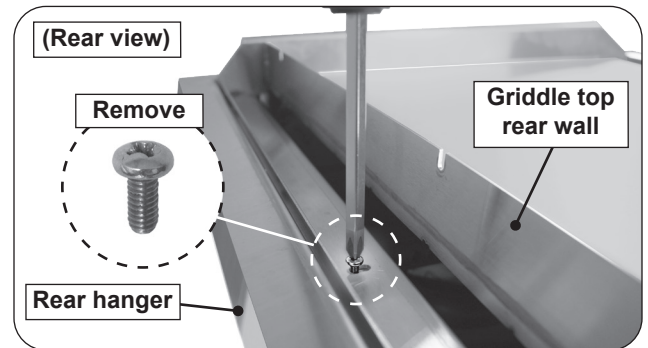

Fig. 39-2 Rear screw removal
2. Locate the screw found on rear of the griddle top and remove (see Fig. 39-2).